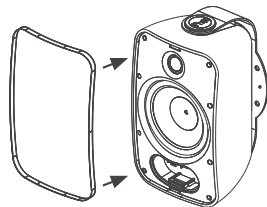

FIGURE 11:
8. Fit the grille onto the speaker by aligning the edges of the grille with the groove of the speaker face perimeter and pressing firmly until it is snugly in place.. (see figure 11).